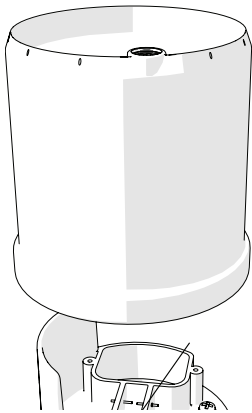

Figure 20 Downspout
- c. Check the downspout (Figure 20) for debris.